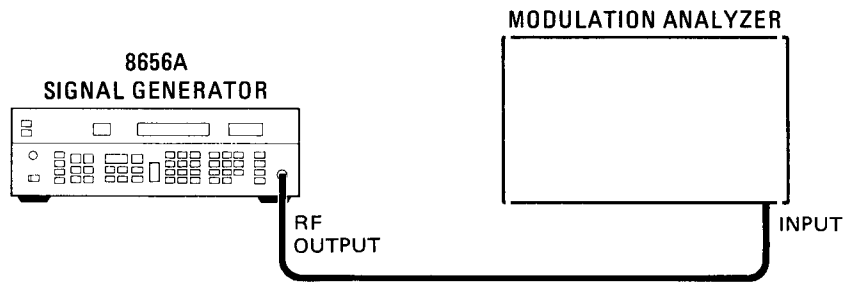

Figure 4-4. Residual FM Test Setup
12. Connect the RF OUTPUT of the Signal Generator to the input of the modulation analyzer as shown in Figure 4-4.